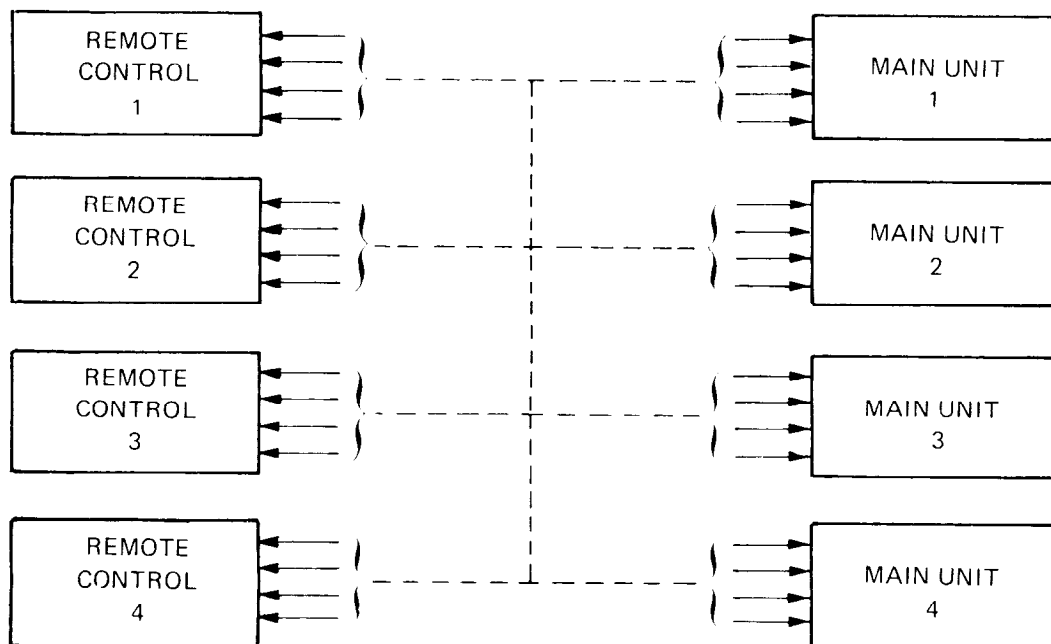

Figure 2-8. Connection of Multiple Remote and Multiple Main Units
**Z-10. CONNECTION OF MULTIPLE REMOTES AND MAIN UNITS.** (See figure 2-8.) The Ultimatte-5 system has the capability for one remote control unit to control up to four main units and for one main unit to be controlled by up to four remotes. While it is unlikely that the setup shown in figure 2-8 would be used, some combinations of multiple units are frequently desirable.